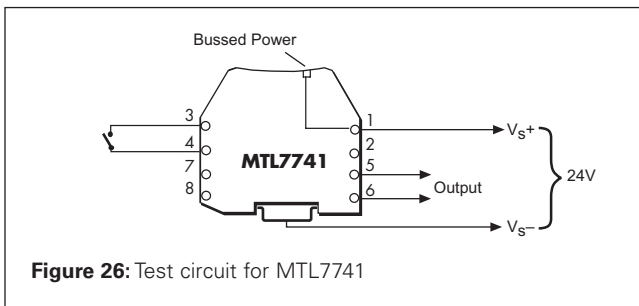

Figure 26: Test circuit for MTL7741
- Connect the barrier as shown in figure 26.